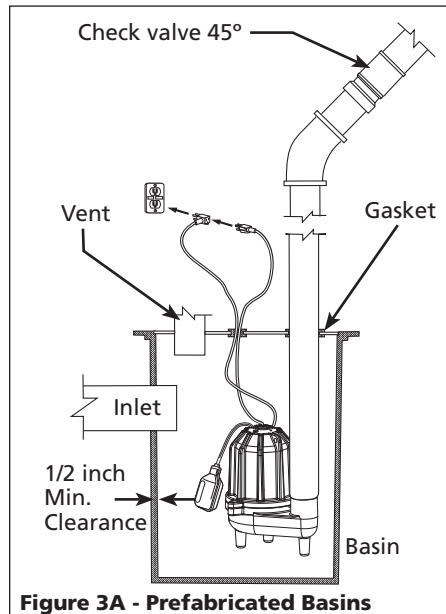

Figure 3A - Prefabricated Basins
6. BCSE models are supplied with a detachable tether switch with a piggyback plug (see Figure 3A). The length of the tether (distance of cord from float to clamp) should not be set shorter than 3-1/4 inches and should not be used in a basin smaller than 14 inches in diameter. If using a differential other than the factory setting, be sure when the pump shuts off at least 4 inch of fluid is left in the basin so the impeller remains submerged.